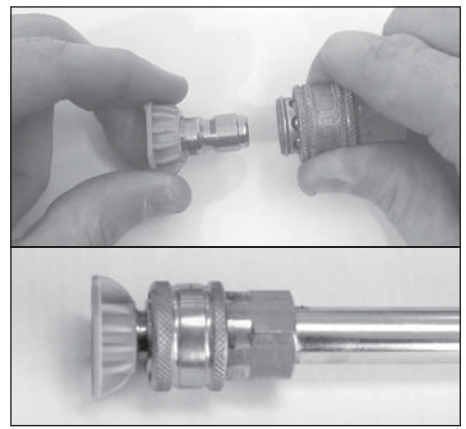

Figure 8 - Inserting quick connect tip
5. Install quick connect tip by pulling back on collar and pressing in tip. Release collar, make sure it completely returns to its forward position and tip is secure (see Figure 8).